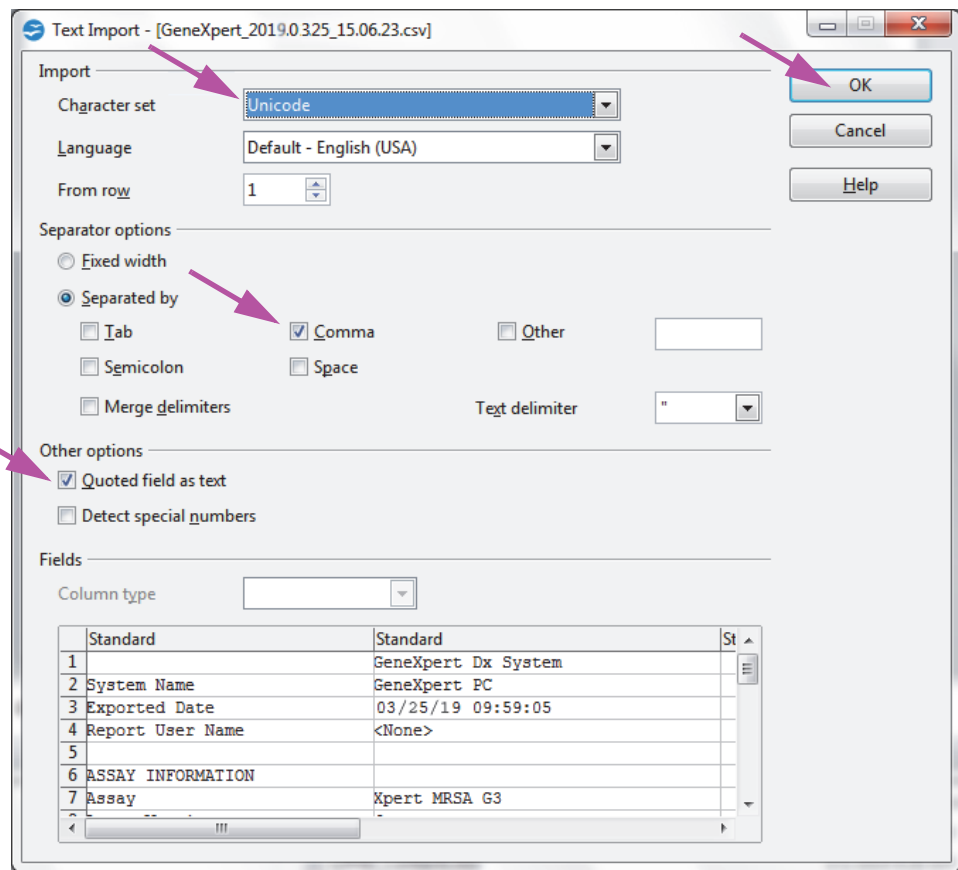

Figure 5-55. Text Import Screen with New Settings Selected
2. The Text Import screen will appear. On this screen, verify the checkboxes to the left of **Comma** and **Quoted field as text** have been checked. See Figure 5-55.